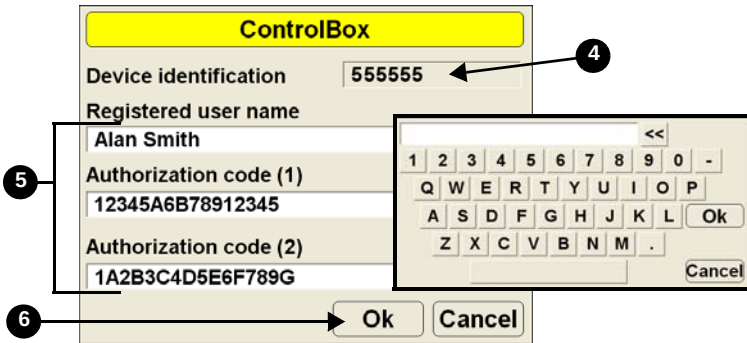

Figure 10-39. Enter New Authorization Codes
5. When you have received the new authorization codes, enter the codes in the *ControlBox* dialog box using the alpha-numeric keyboard (Figure 10-39 on page 10-35).